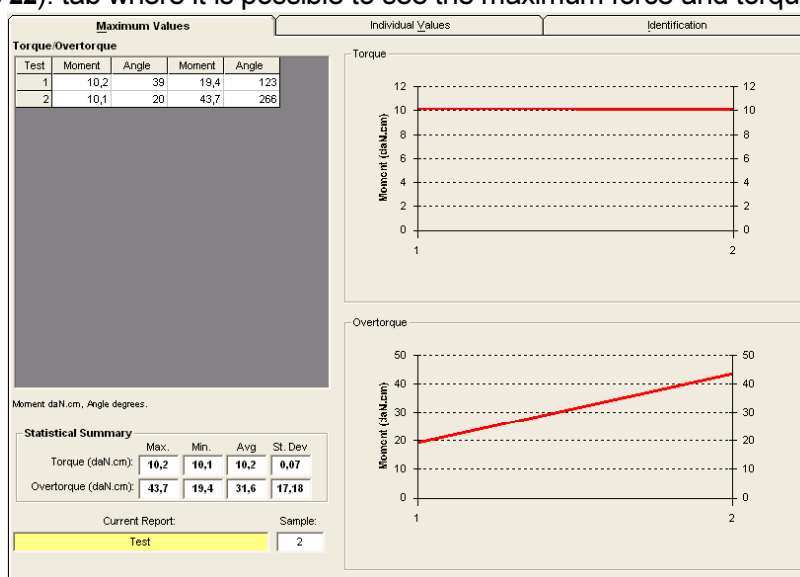

Figure 22– Window with maximum values
- **Maximum Values (Figure 22):** tab where it is possible to see the maximum force and torque